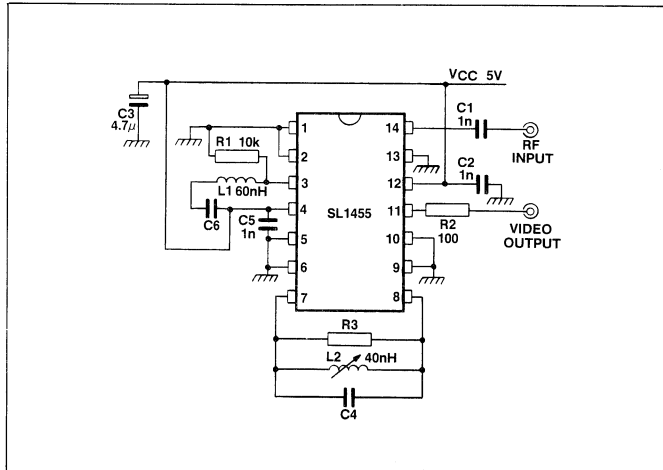

Fig.3 Typical application, 612MHz threshold extended demodulator.
- All parameters from Noise threshold to Video bandwidth are determined by the application circuit. These results were gained with the circuit in Fig.3